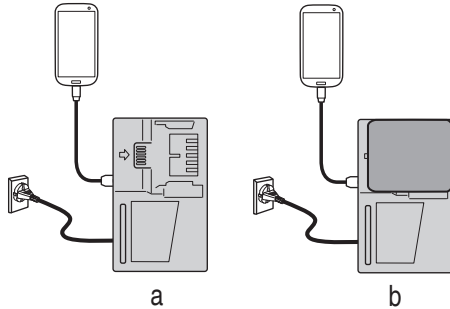

Fig. 15
- Charging a USB device from a electrical outlet (Fig. 15-a).
- Charging a USB device and battery from a electrical outlet.(Fig. 15-b)